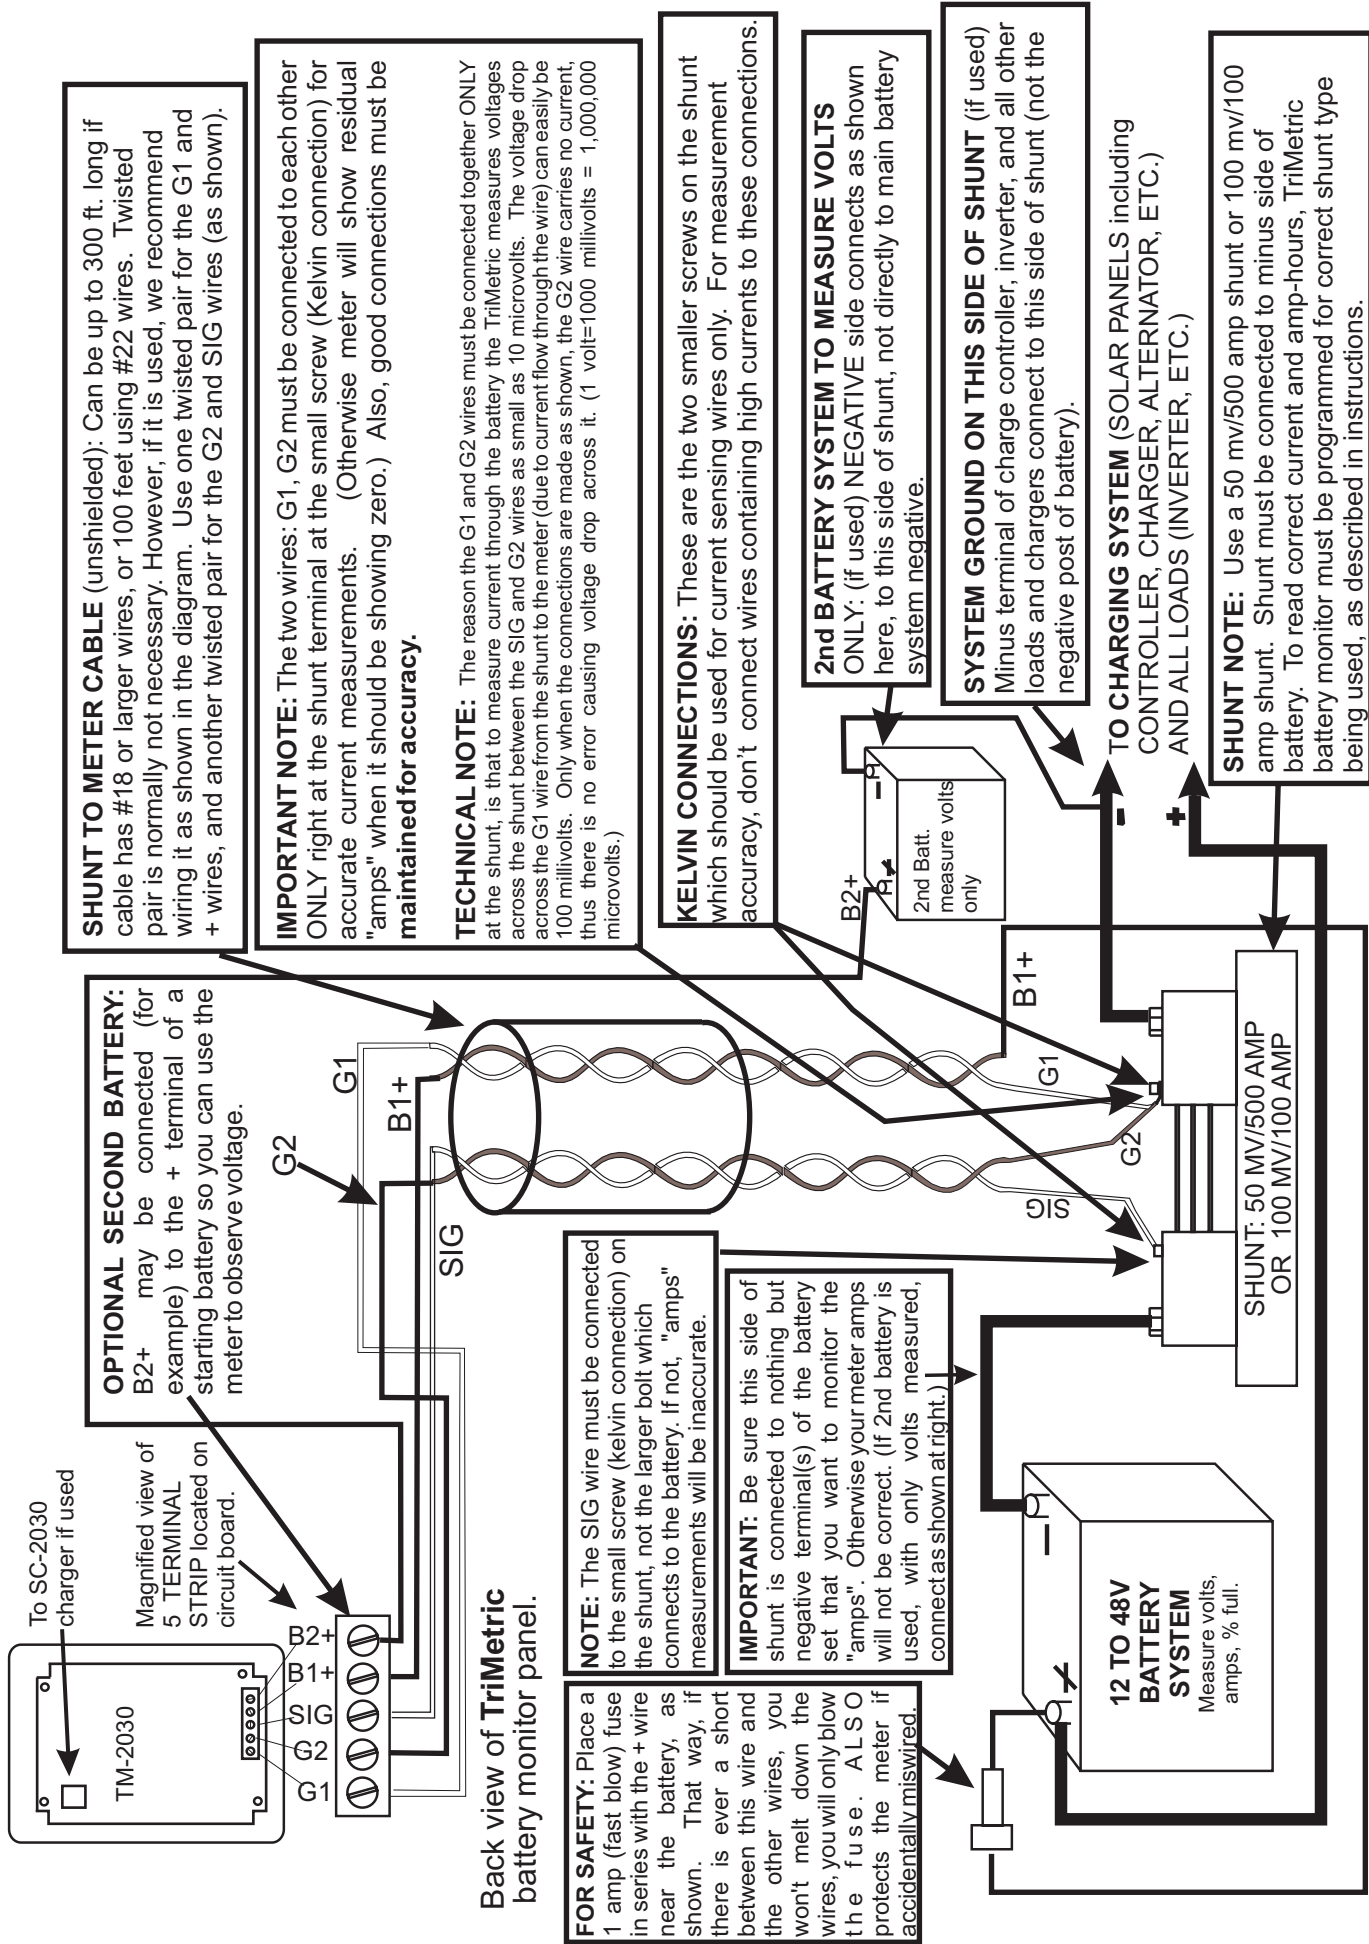

FIGURE 2: TM-2030 TriMetric Battery Monitor Connections
- a. First connect both the **G1** and **G2** wires to the Kelvin “load side” terminal (on the shunt *farthest* from the minus battery terminal lead,) as also shown in Figure 2. These two wires must join together *only* right at this terminal.
STEP 6: Use a small screwdriver to loosen the screws on the connector and insert each wire in a separate connector hole using the chart above and/or wiring diagram (Figure 2) to determine which wire goes to which terminal, and tighten each screw to hold the wires securely, taking care that there is no danger of shorts between the wires.
Make a final check of the wiring. Install meter in box and finally insert the 1A fuse(s) in the battery fuse holder(s). Digits should light up on the meter. **If fuse blows, wiring is probably wrong: before replacing fuse:** carefully check that **B1+** wire from battery and fuse goes to proper “B1+” terminal on the meter. (See wiring, Figure 2)